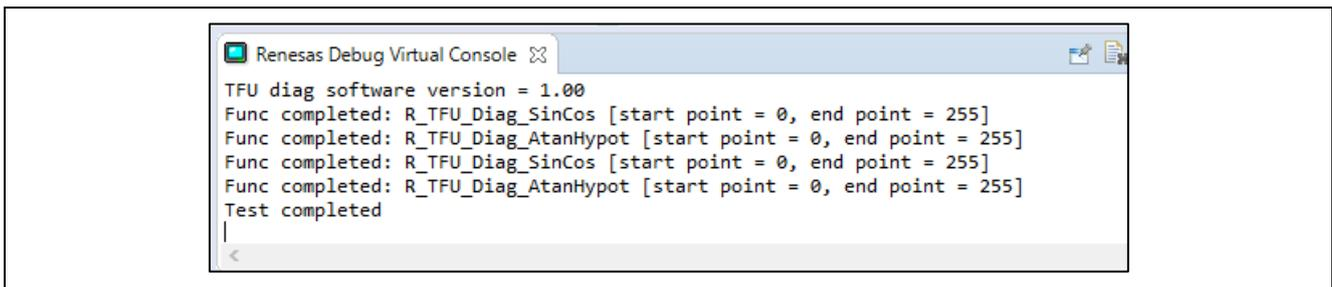

Figure 3.1 Result Message (No fault detection)
- If the execution finished without error, the message showed by Figure 3.1 appears in the “Renesas Debug Console” or “Terminal I/O which are equipped with the e2 studio or EWRX respectively. To output this message, “RES_OUT” macro should be defined.